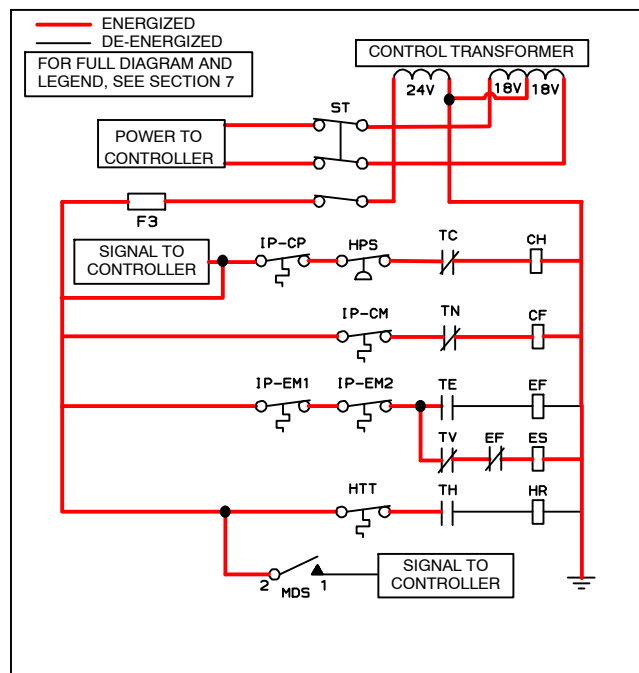

Figure 3-9 Frozen Mode
- a. When the return air temperature is above set point and decreasing, the unit will be cooling with the condenser fan motor (CF), compressor motor (CH), evaporator fan motors (ES) energized and the white COOL light illuminated (see Figure 3-9).